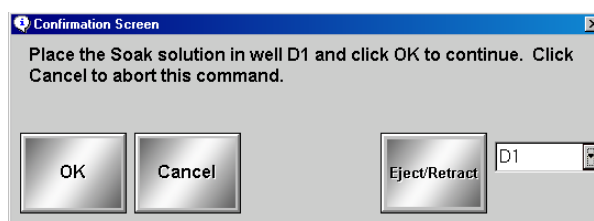

Figure 5-21 Confirmation Screen Dialog Box
2. Put water in the reservoir or into a well on a microtiter plate. Click **Soak**. A confirmation dialog box opens. See Figure 5-21.